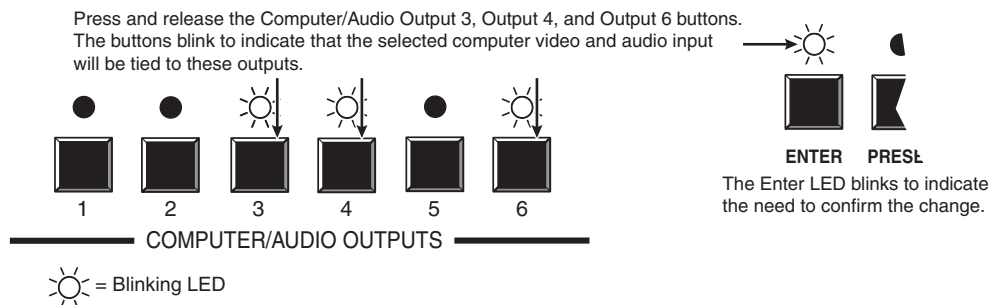

Figure 3-6 — Select the outputs
- Press and release the output 3, output 4, and output 6 buttons (figure 3-6).